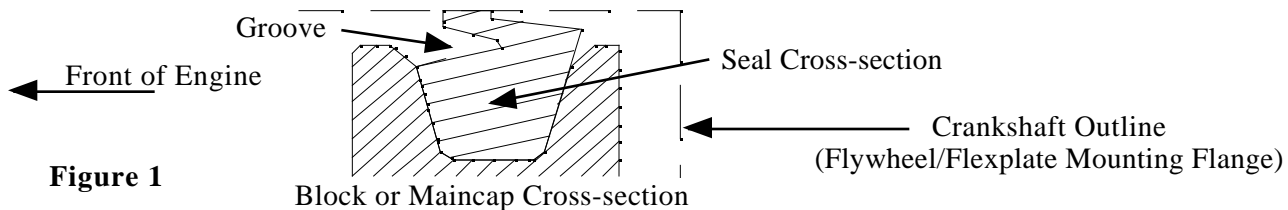

Figure 1
2. Place one half of the seal in the block seal cavity noting correct orientation of seal (Figure 1). With the seal fully seated in cavity, square up one end of the seal with the block/cap parting line and measure the amount of the seal that is protruding on the opposite end using a caliper or feeler gauge. The amount protruding should be 0.020 ± 0.005 ". This equates to 0.0075 to 0.0125" per side. If it is more, carefully remove material from the end of the seal with a file while keeping the ends square, until it measures the correct amount. Repeat this procedure for the main cap assembly.
4. Reinstall the seal halves noting correct orientation of seal (Figure 1). Position with an equal amount of protrusion on each end. Place a thin film of high temperature red silicone sealer on the ends of the seal halves only (Figure 2).
4. Make sure seal cavities are clean and free of obstructions. Place the BOP Engineering seal in the block noting correct orientation of seal (Figure 1).
7. Reinstall the seal in the main cap, noting correct orientation of seal (Figure 1). Position with an equal amount of protrusion on each end. Place a thin film of high temperature red silicone sealer on the ends of the seal halves (Figure 2).